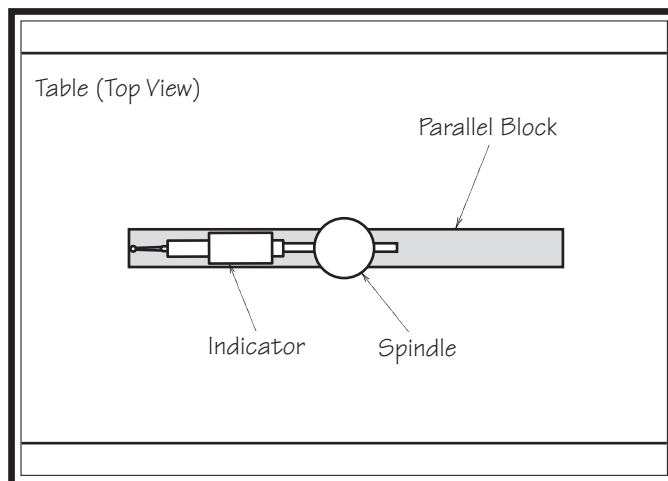

Figure 32. Parallel block positioned for the X-axis measurement (top view).
5. To measure spindle alignment along the X-axis, place the parallel block directly under the spindle and the indicator across the length of the table, as illustrated in **Figure 32**.
6. Rotate the spindle by hand so that the indicator point rests on one end of the parallel block, as illustrated in **Figure 32**, then zero the dial.